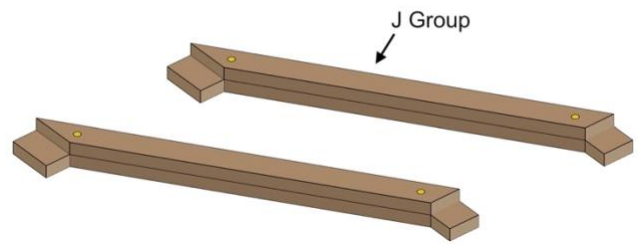

Fig. 42
- Fig. 42 shows the completed process (make two parts).